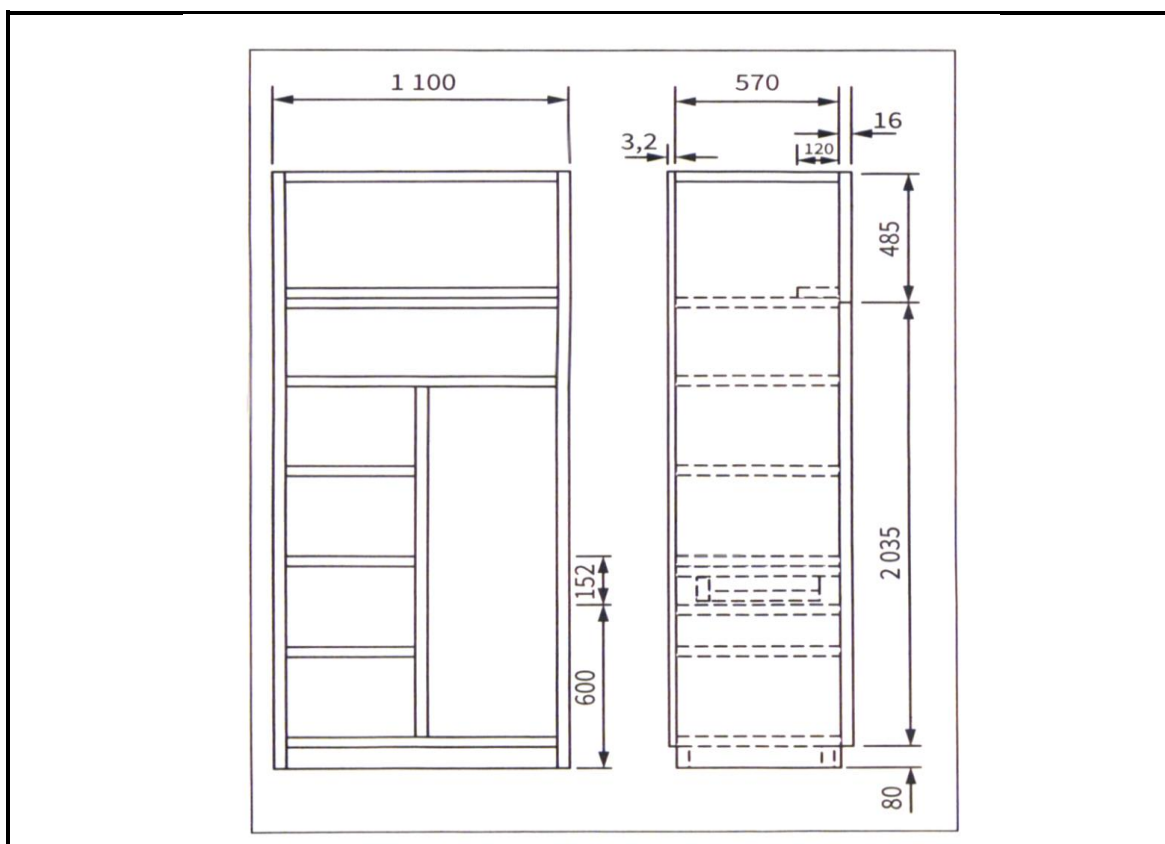

FIGURE 3.3
3.3 FIGURE 3.3 below shows the front and side elevation of a bedroom cupboard, without doors, fitted from floor to ceiling. An incomplete cutting list specifying some parts of the cupboard is given. Study the drawing and complete the cutting list by providing answers to 3.3.1–3.3.7.